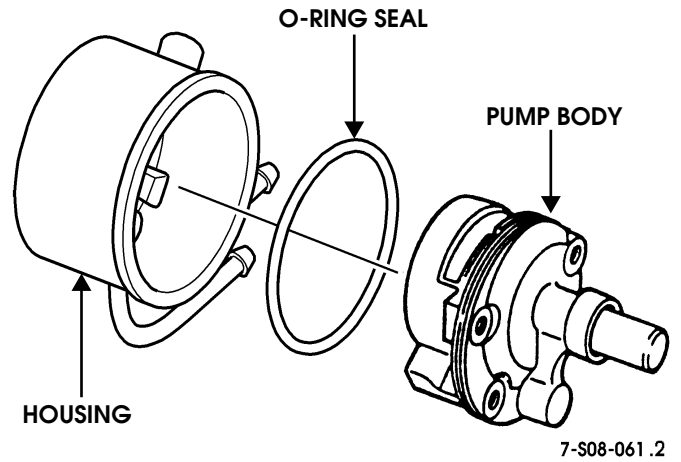

Figure 8-82: "O" Ring Installation
- 17. Install O-ring seal on pump body (Figure 8-82).